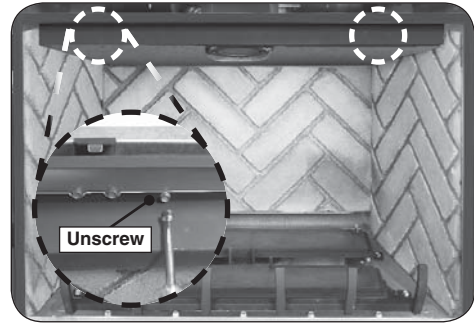

Fig. 56-1 Remove lintel
1. Remove the lintel found at the top front of the unit. Use a $\frac{5}{16}$ " nut driver to remove the two hex screws found on each side of the lintel. See Fig. 56-1.